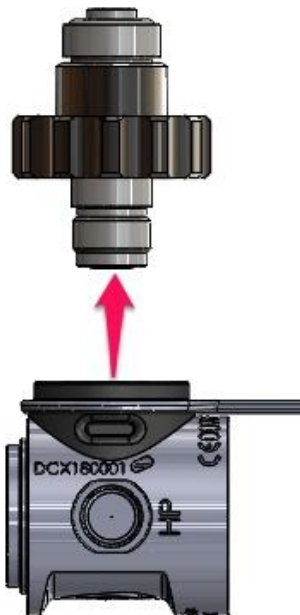

Fig. 14
20. Remove the DIN assembly from the body (Fig. 14).